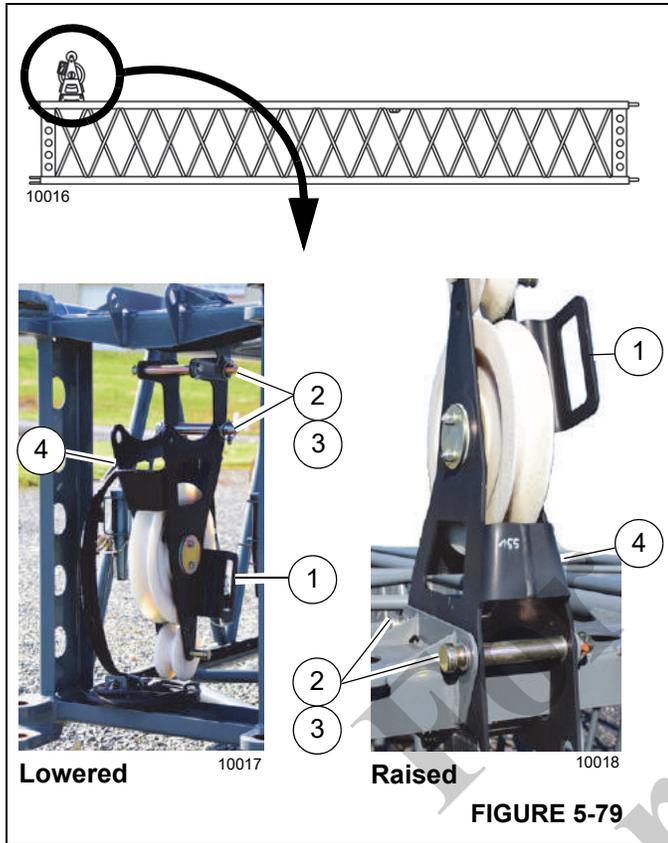

FIGURE 5-79
- a. Hold the handle (1, Figure 5-79) and remove retaining clips (2) and pins (3).
- b. Swing the mast sheave assembly (4) to the lowered position. Align the holes.
- c. Install pins (3). Secure with retaining clips (2).